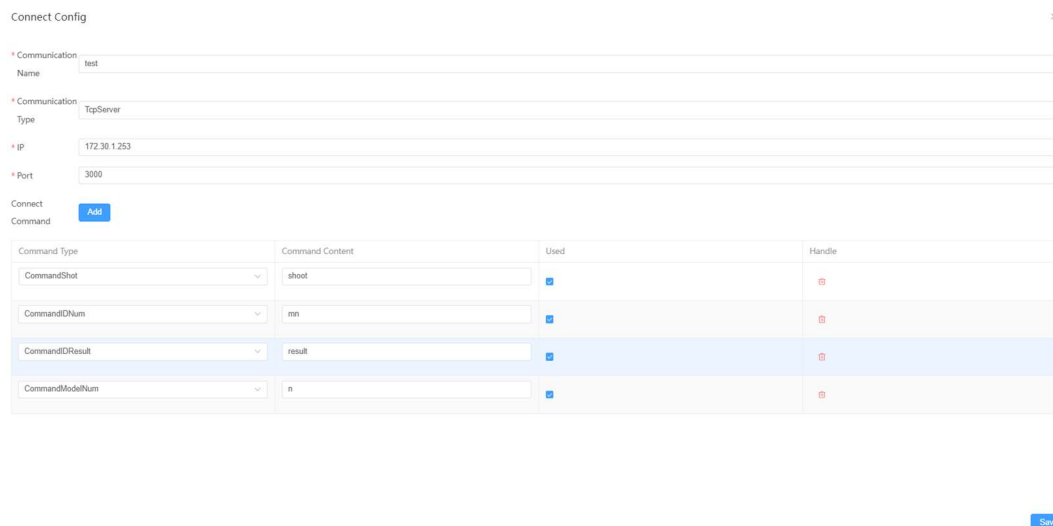

Figure 9.4.4 Communication Settings
Step 2: Communication settings: in the communication settings module, click "Add". In this flowchart, four commands are required, namely "Camera Capture", "Number of Templates", "Number of Colors Recognized", and "Color Recognition Result" as shown in Figure 9.4.4;